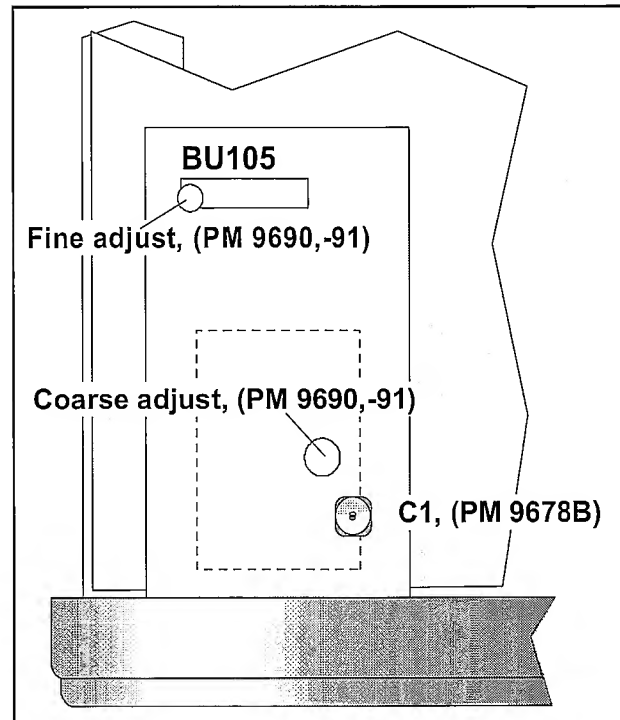

Figure 6-5 Trimmers for the optional oscillator frequency.
- Adjust the trim capacitor C1 on the optional oscillator until the counter reads 10 MHz ± 1 Hz. See Figure 6-5.
- Adjust the FINE trimmer on the oscillator until the waveform moves with a velocity of a maximum of 1 div/10s (0.1 Hz). See Figure 6-5.